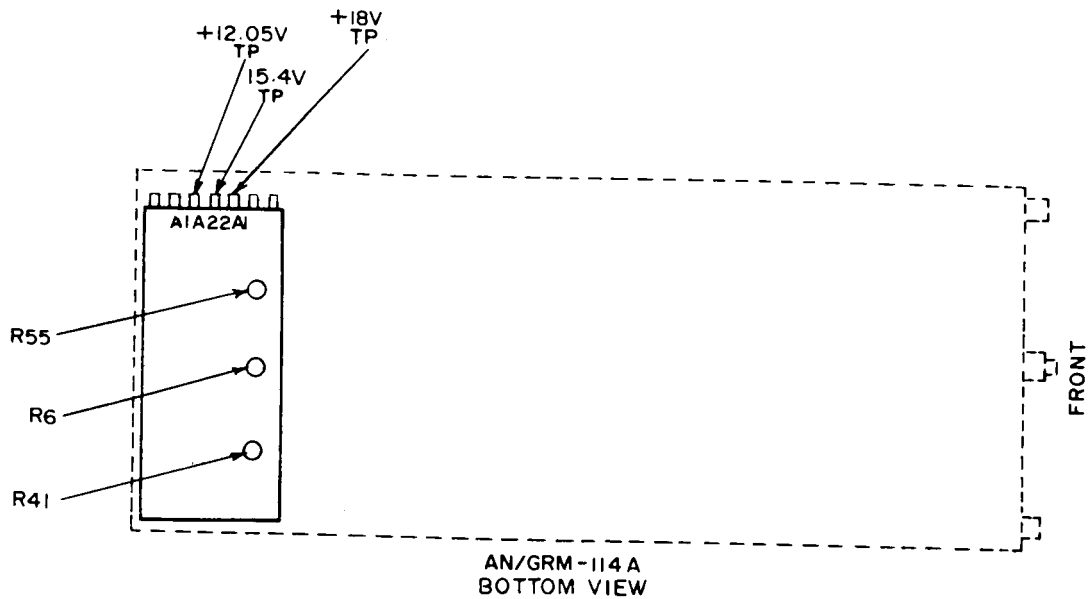

Figure 9. AN/GRM-114A - bottom view.
(5) Move digital voltmeter positive lead to +15.4 V TP (fig. 9). If digital voltmeter does not indicate between 15.55 and 15.25 V dc, perform **b**(2) below.
(6) Move digital voltmeter positive lead to +12.05V TP (fig. 9). If digital voltmeter does not indicate between 11.95 and 12.15 V dc, perform **b(3)** below.
(7) Remove decade resistor from battery terminals.
(8) Connect dc power supply (A16) and digital voltmeter across battery terminals.
(9) Set power supply voltage for a 12 V reading on digital voltmeter.
(10) Slowly reduce dc power supply voltage until TI just shuts off. If digital voltmeter does not read between 10.9 and 11.1 V dc, perform **b(4)** below.
(1) Adjust A1A22A1R41 (fig. 9) for an 18 V indication on digital voltmeter (R).
(2) Adjust A1A22A1R6 (fig. 9) for a 15.4 V indication on digital voltmeter (R).
(3) Adjust A1A22A1R55 (fig. 9) for a 12.05 V indication on digital voltmeter (R).